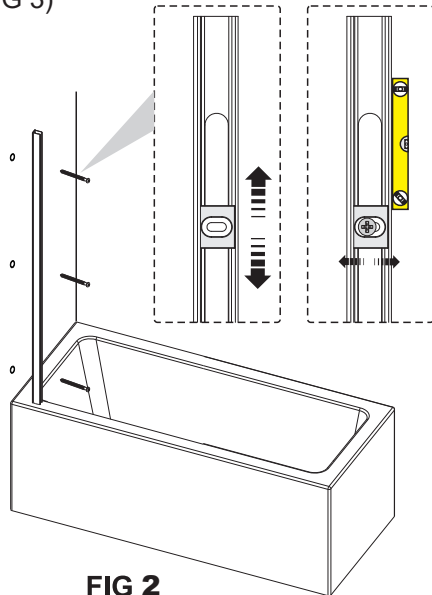
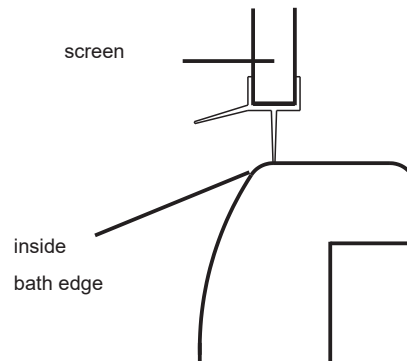

FIG 2
FIG 3
2. Turn the hinge post **S030C** upside down, reinsert the moving panel (do not turn panel upside down). Reattach the bracket. Fig 2. The screen can then be fitted on the Right hand Side of the Bath. Ensure the brackets **BSYS021** are facing in the correct direction. Fig 3.
2. Ensure profile is plumb to the wall (FIG 2) and positioned to ensure the bathscreen will be on the inside edge of the bath. (FIG 3)